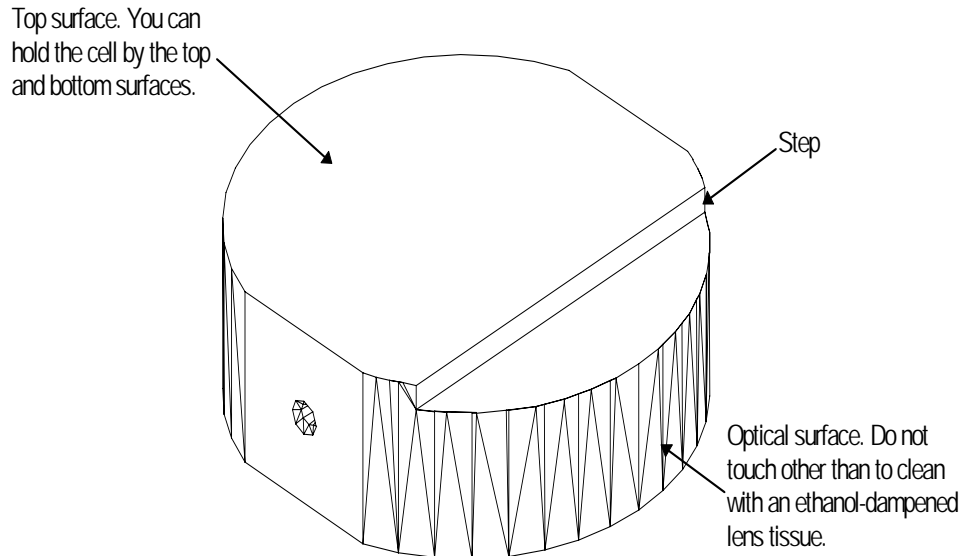

Figure 5-5: Flow cell
3. Clean the outside of the cell. (See Figure 5-5.)